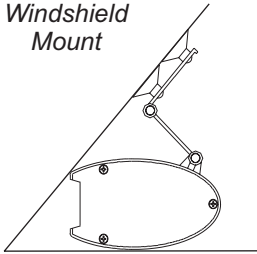

Fig. 2
3. Plug power cord into your vehicle's cigarette lighter socket to activate the light. If you are installing the DMP3S, refer to Fig. 2 when wiring the center take-down lamp.